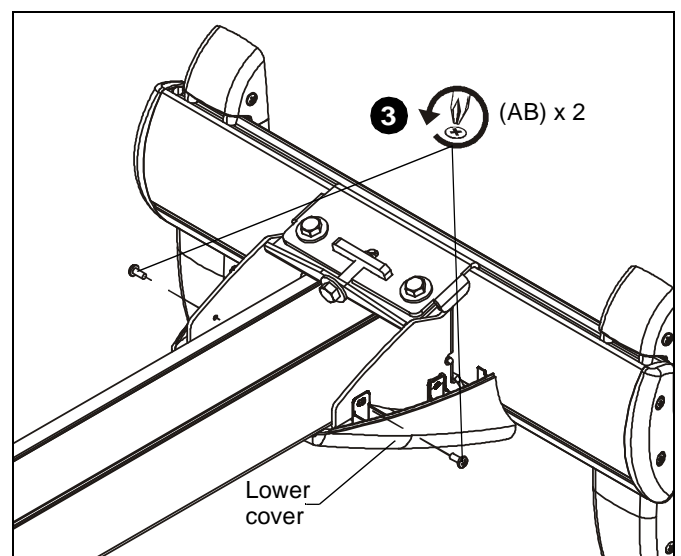

Figure 43
3. Remove two 8-32 x 3/8" Phillips pan head screws (AB) from lower cover. (See Figure 43)